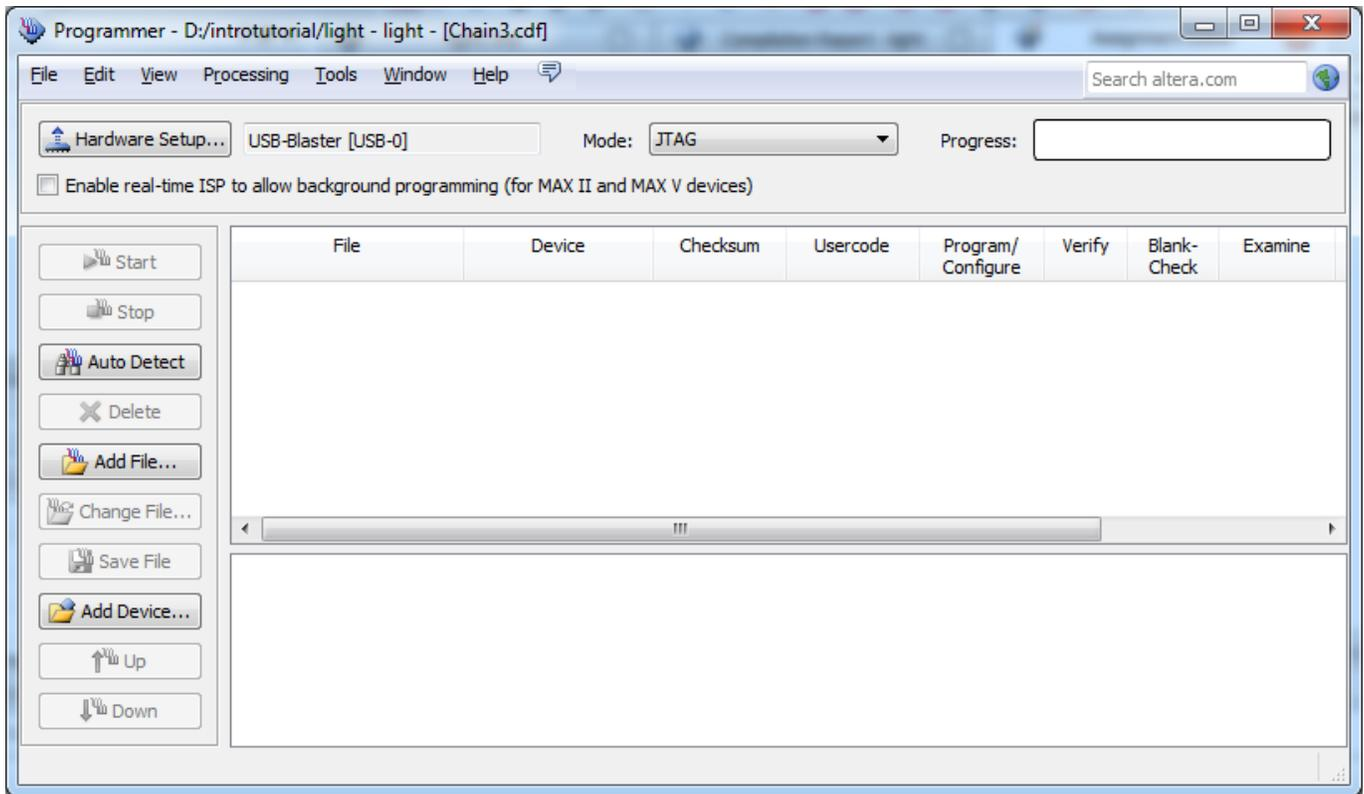

Figure 32. The Programmer window.
2. Select Tools > Programmer to reach the window in Figure 32.